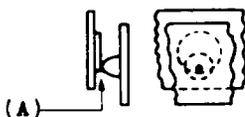

Fig. 6
*2.19 Contact Alignment - Fig. 6 (A) - The contacts shall line up so that the point of contact falls wholly within the boundary of the opposing contact. Gauge by eye.